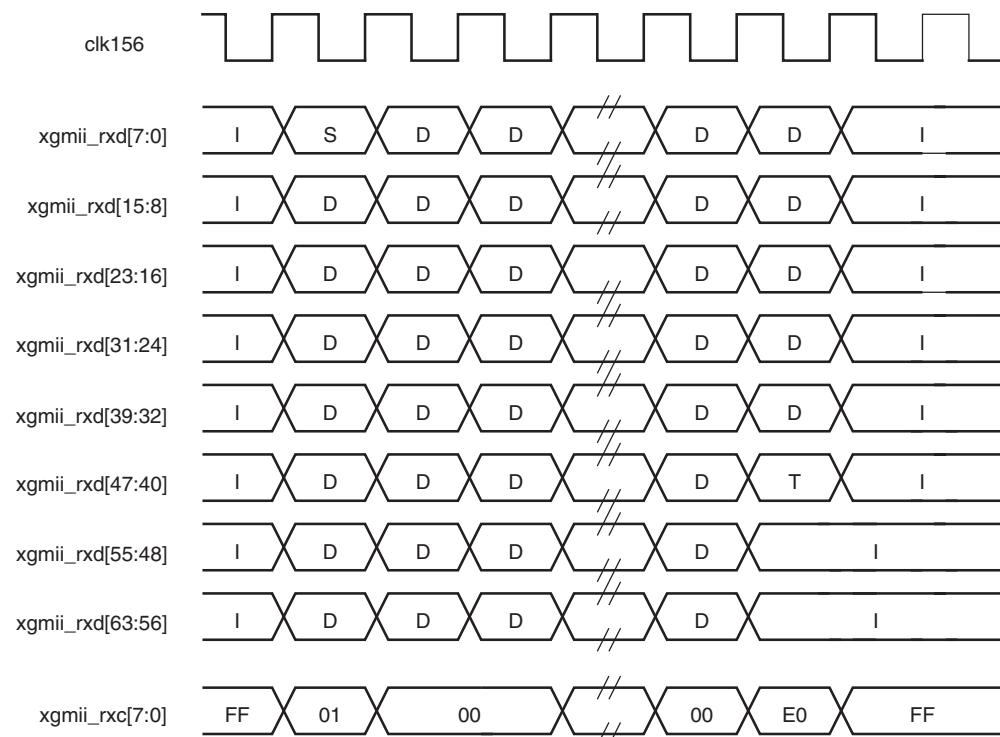

Figure 3-5: Frame Reception Across the Internal 64-bit Client Interface
The timing of a normal inbound frame transfer is shown in Figure 3-5. As in the transmit case, the frame is delimited by a Start character (S) and by a Terminate character (T). The Start character in this implementation can occur in either lane 0 or in lane 4. The Terminate character, T, can occur in any lane.